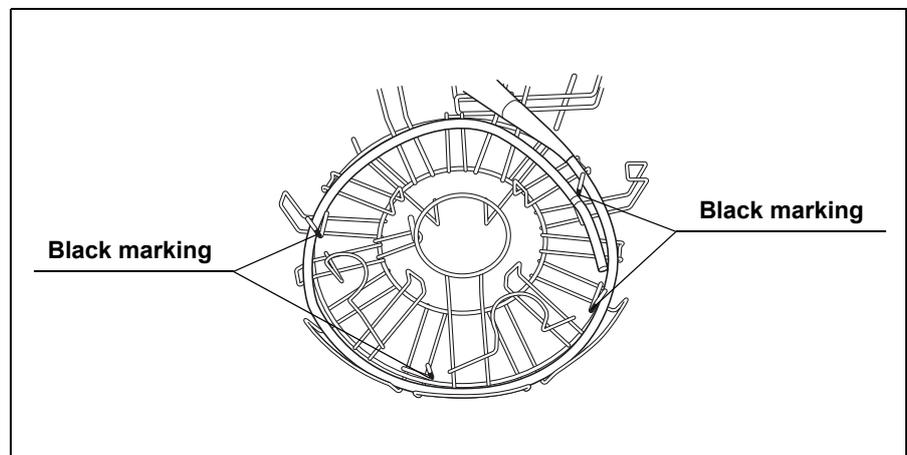

Figure 4.13
3. Wind the insertion tube clockwise around the retaining rack from the perimeter in (wind the first turn of the insertion tube outside the black markings and the second turn inside them) (see Figure 4.13).